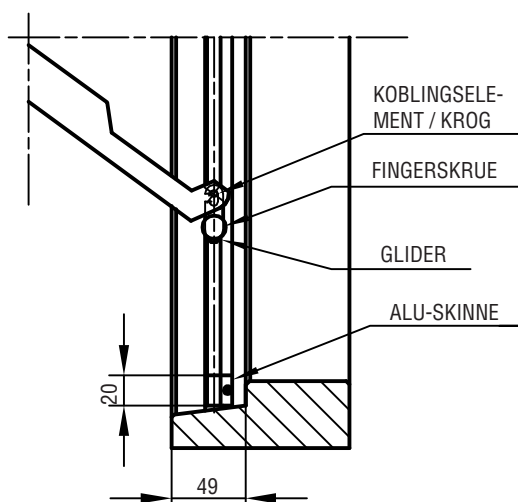

FIG. 1
1. DET SAMLEDE BESLAG MONTERES I HØJRE SIDE, SET INDEFRA, SÅLEDES AT ALU-SKINNEN I BESLAGET SIDDER I DIREKTE FORLÆNGELSE AF ALU-SKINNEN I 21144-52, SE FIG. 1.